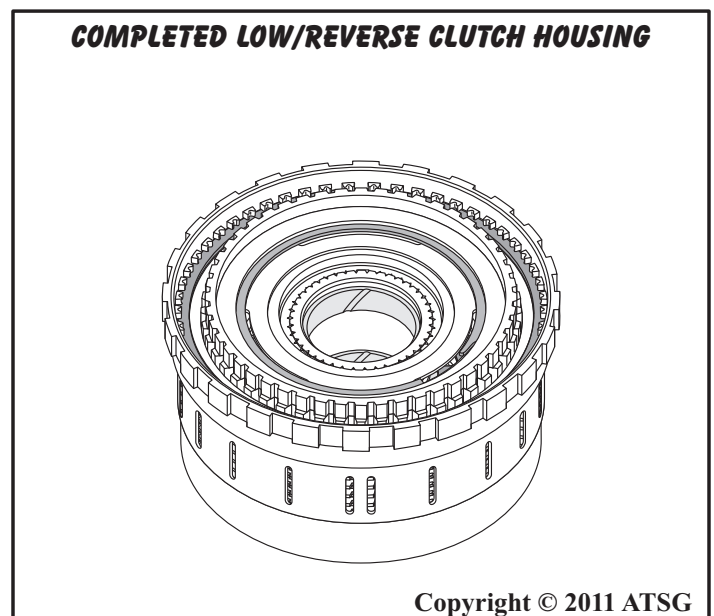

Figure 79
33. Set the completed low/reverse clutch housing, as shown in Figure 79, aside for final assembly.